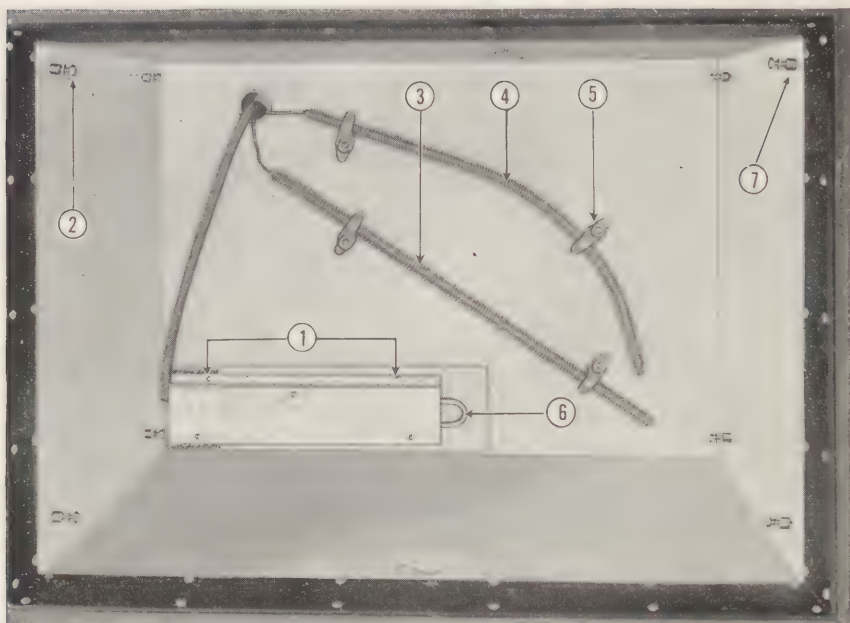

Figure 34. Heater unit and control bulbs installed.
This control is supplied with a cross, fin type bulb mounted in the storage compartment (fig 34, item 4) and based on air temperature differential of 1 degree Fahrenheit rise per minute. This should be taken into consideration when making any change in adjustment or noting reaction.
- (1) Remove the evaporator from the cabinet. (See par 47 a.)
- (2) Remove clamps from upper arched bulb at rear of the storage compartment (fig 34, item 5).
- (3) Disconnect the extension cord plug from the source of supply.
- (2) Shape capillary line and clamp bulb in an arched position above heater bulb on rear wall of storage compartment (fig 34, item 4).
- (1) Remove evaporator from cabinet. (See par 47 a.)
- (2) Remove clamps from lower straight bulb at rear of storage compartment (fig 34, item 3).
- (2) Shape capillary line and clamp bulb below the refrigeration thermostatic bulb on rear wall of storage compartment (fig 34, item 3).
- (1) Remove the evaporator. (See par 47 a.)
- (2) Disconnect the extension cord plug from the source of supply.
- (3) Remove the 2 screws, SR00892 (fig 34, item 1), supporting the heater unit assembly at the rear of the cabinet.
- (5) Secure the assembly by 2 screws (fig 34, item 1) through the guard and components to the rear wall of the cabinet.